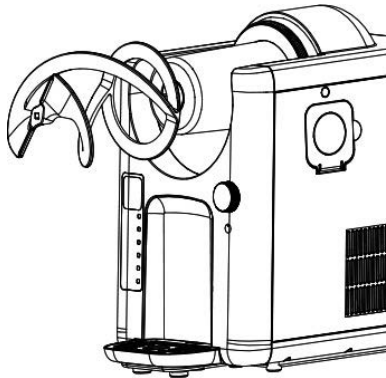

Fig. 8
9. Turn the mixing container counterclockwise and carefully pull it off the base housing (Fig. 8).